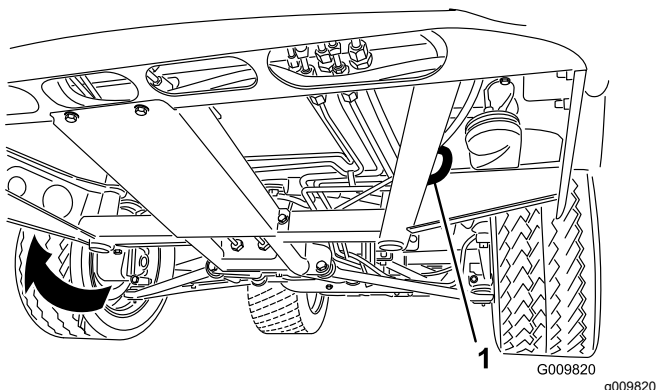
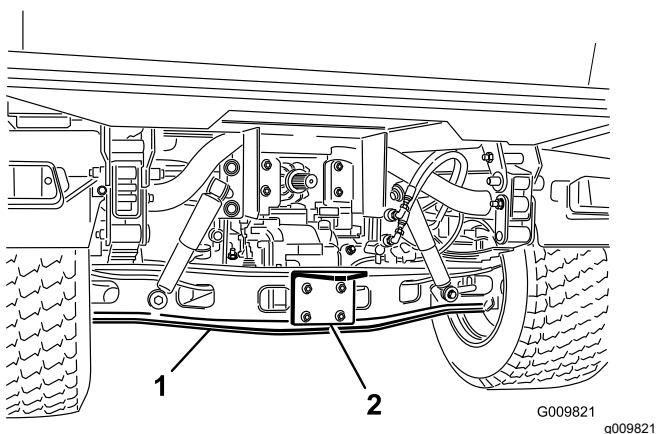

Figure 18
Figure 19
Refer to Figure 18 and Figure 19 for the tie-down locations on the machine.
1. Affix a tow line to the tongue at the front of the frame of the machine (Figure 18).